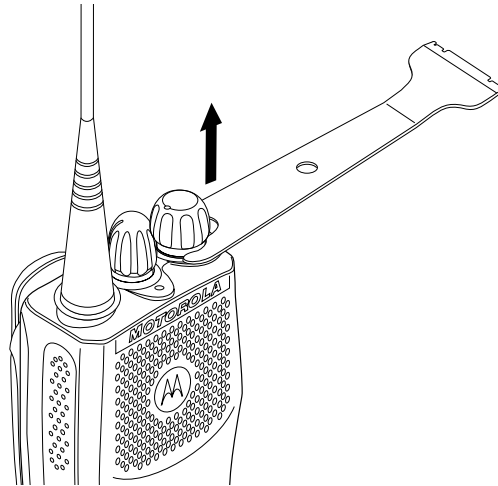

Figure 7-2. Antenna and Knob Removal
4. Pry off the volume and channel selector knobs from their shafts using the knob remover/chassis opener tool (Motorola part # 6686533Z01) (Figure 7-2).